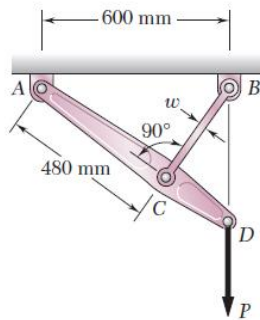

Fig. Q1(b)
- Q1b) Link BC is 6 mm thick and is made of a steel with a 150 MPa yield strength in tension. What should be its width w if the structure shown (**Fig. Q1(b)**) is being designed to support a 20 kN load P ? [7]